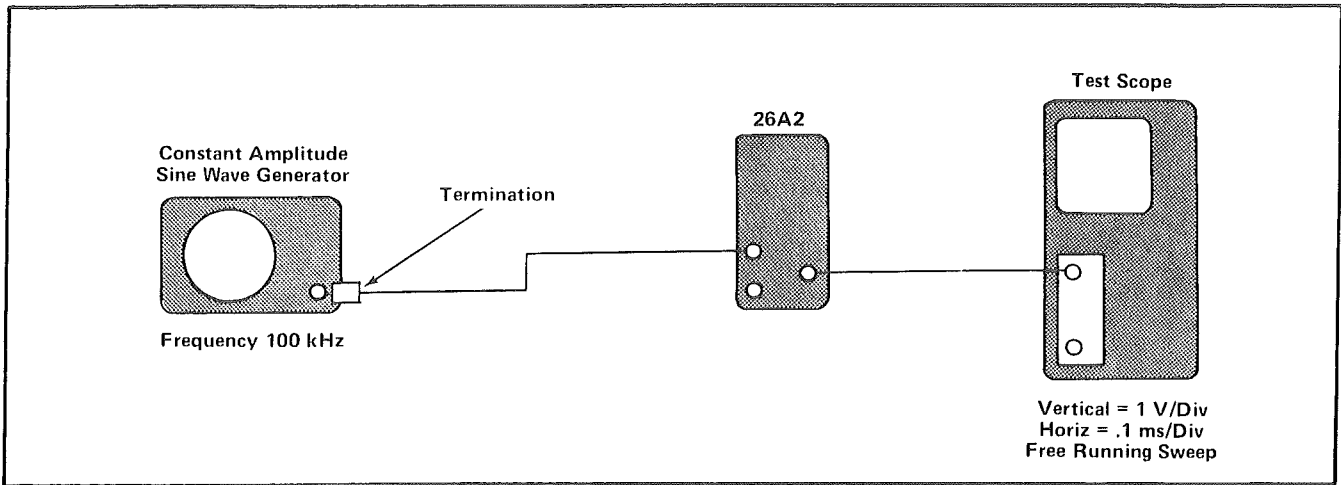

Fig. 5-8. Equipment setup for step 10.
- a. Set up the equipment as illustrated in Fig. 5-8.